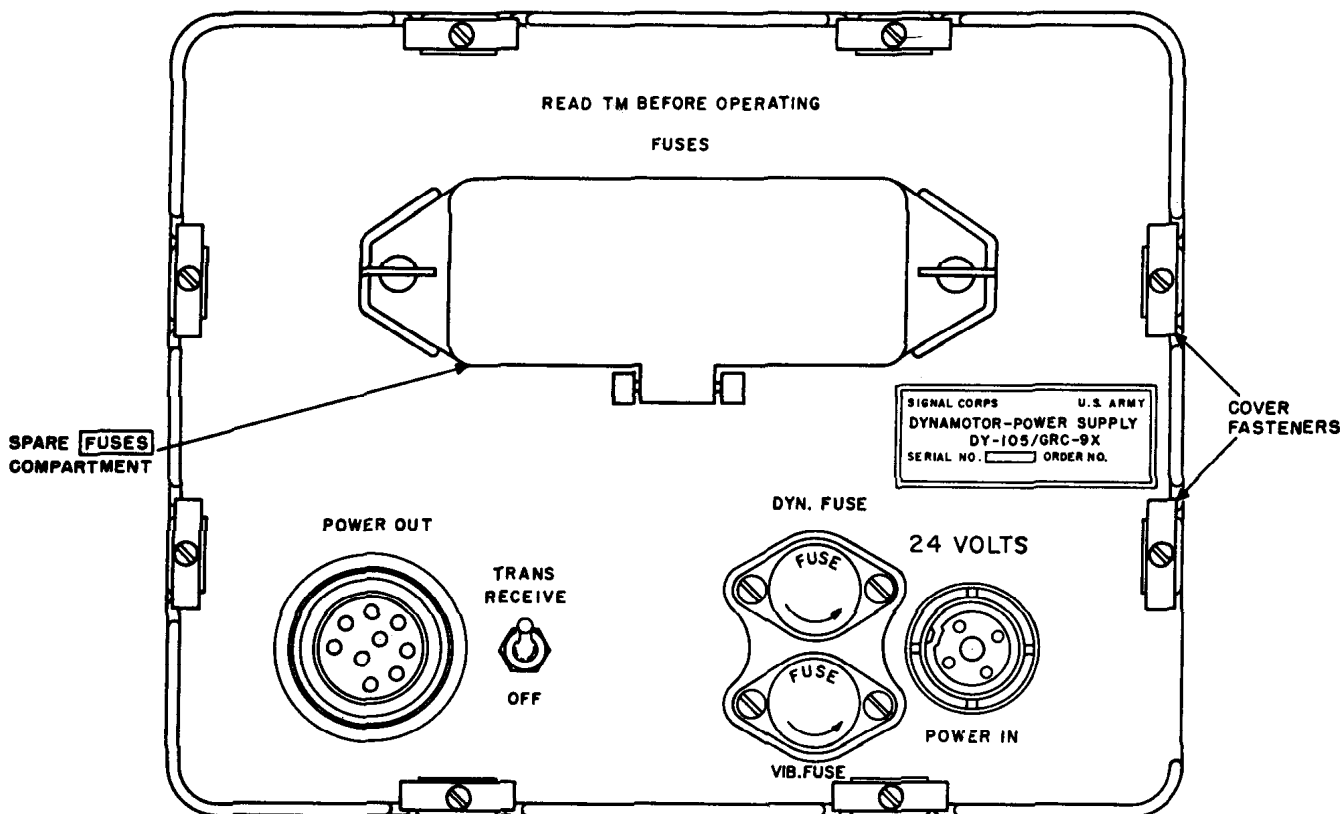

Figure 46. Dynamotor-Power Supply DY-105/GRC-9X, front panel controls.
b. Dynamotor—Power Supply DY-105/GRC-9X (fig. 46).